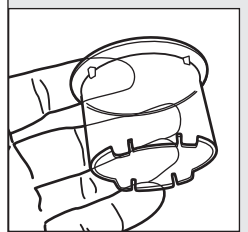

FIGURE 2
- *The transparent filler-cap is designed to assist in tightening and loosening the blade assembly if necessary.* FIGURE 2